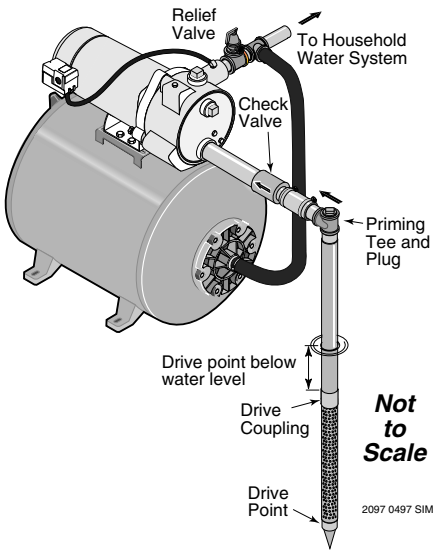

Figure 4: Typical Well-Point Installation
2. Install the pump in the system (see Figures 4, 5, and 6). Make sure that all of the pipe joints in the suction pipe are air-tight as well as water tight. If the suction pipe can suck air, the pump will not be able to pull water from the well.
WELL POINT INSTALLATION (Figure 4)